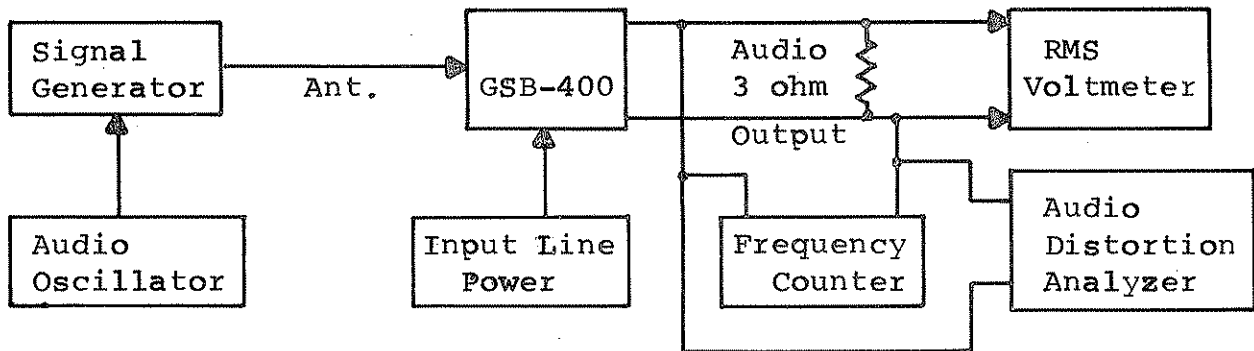

Figure 5
- (1) Follow steps 1 through 4 Paragraph D-1-a.
- (2) Connect test equipment, as shown in Figure 5.